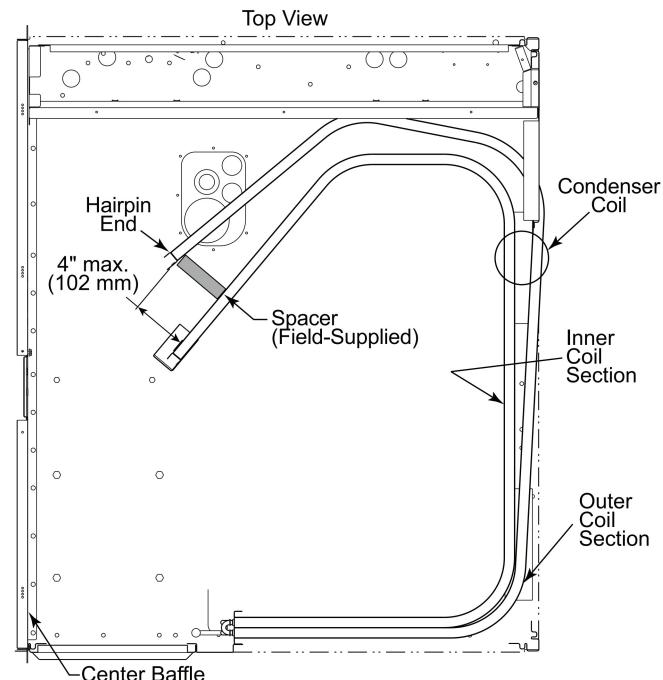

Fig. 16 — Separating Coil Sections
8. Insert a spacer (field-supplied) between the tube sheets to hold the coils apart. See Fig. 16.